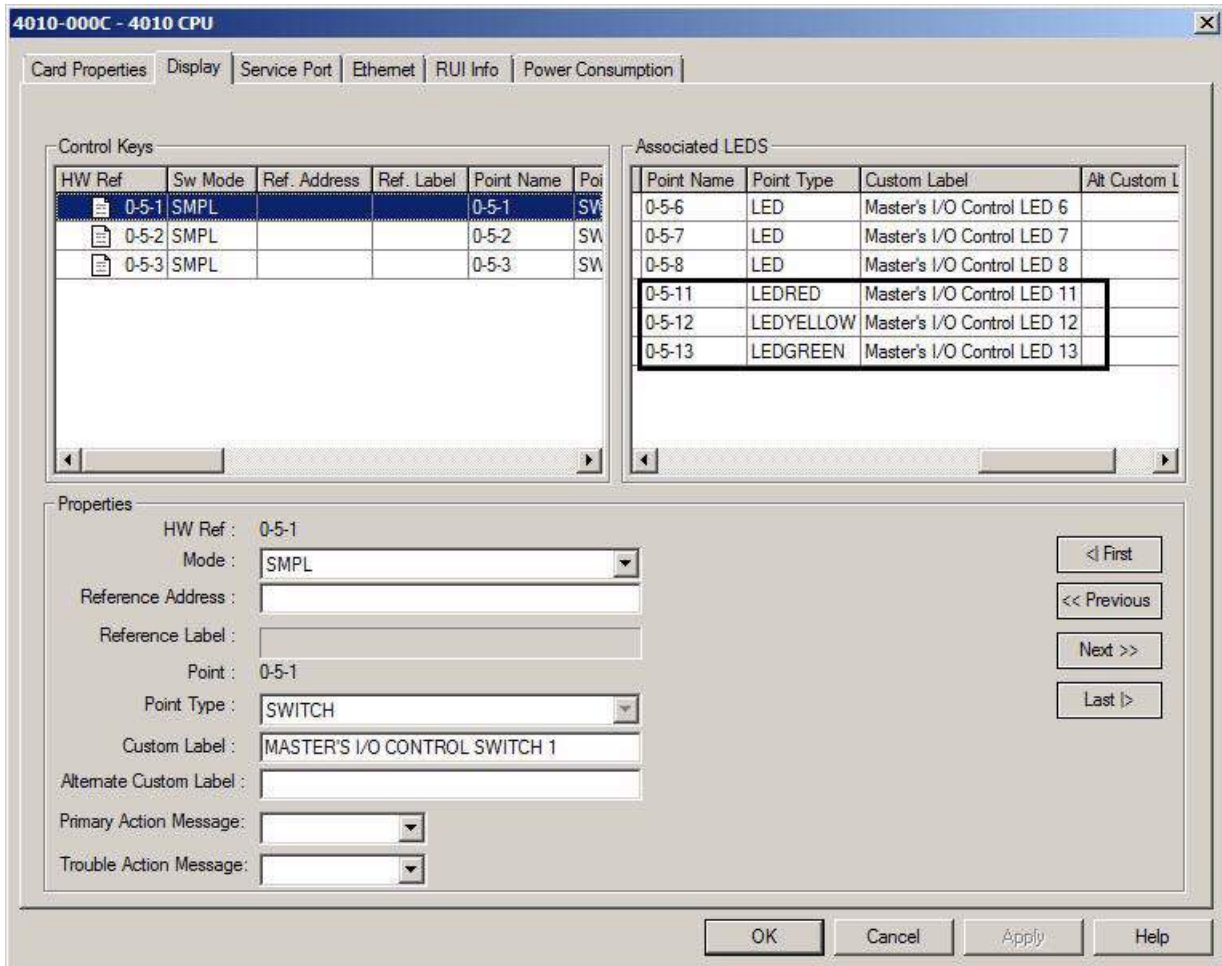

Figure A-3. The Display tab: LEDs
1. Select one of the multicolor LEDs (0-5-11, 0-5-12, or 0-5-13) to program (Figure A-3).